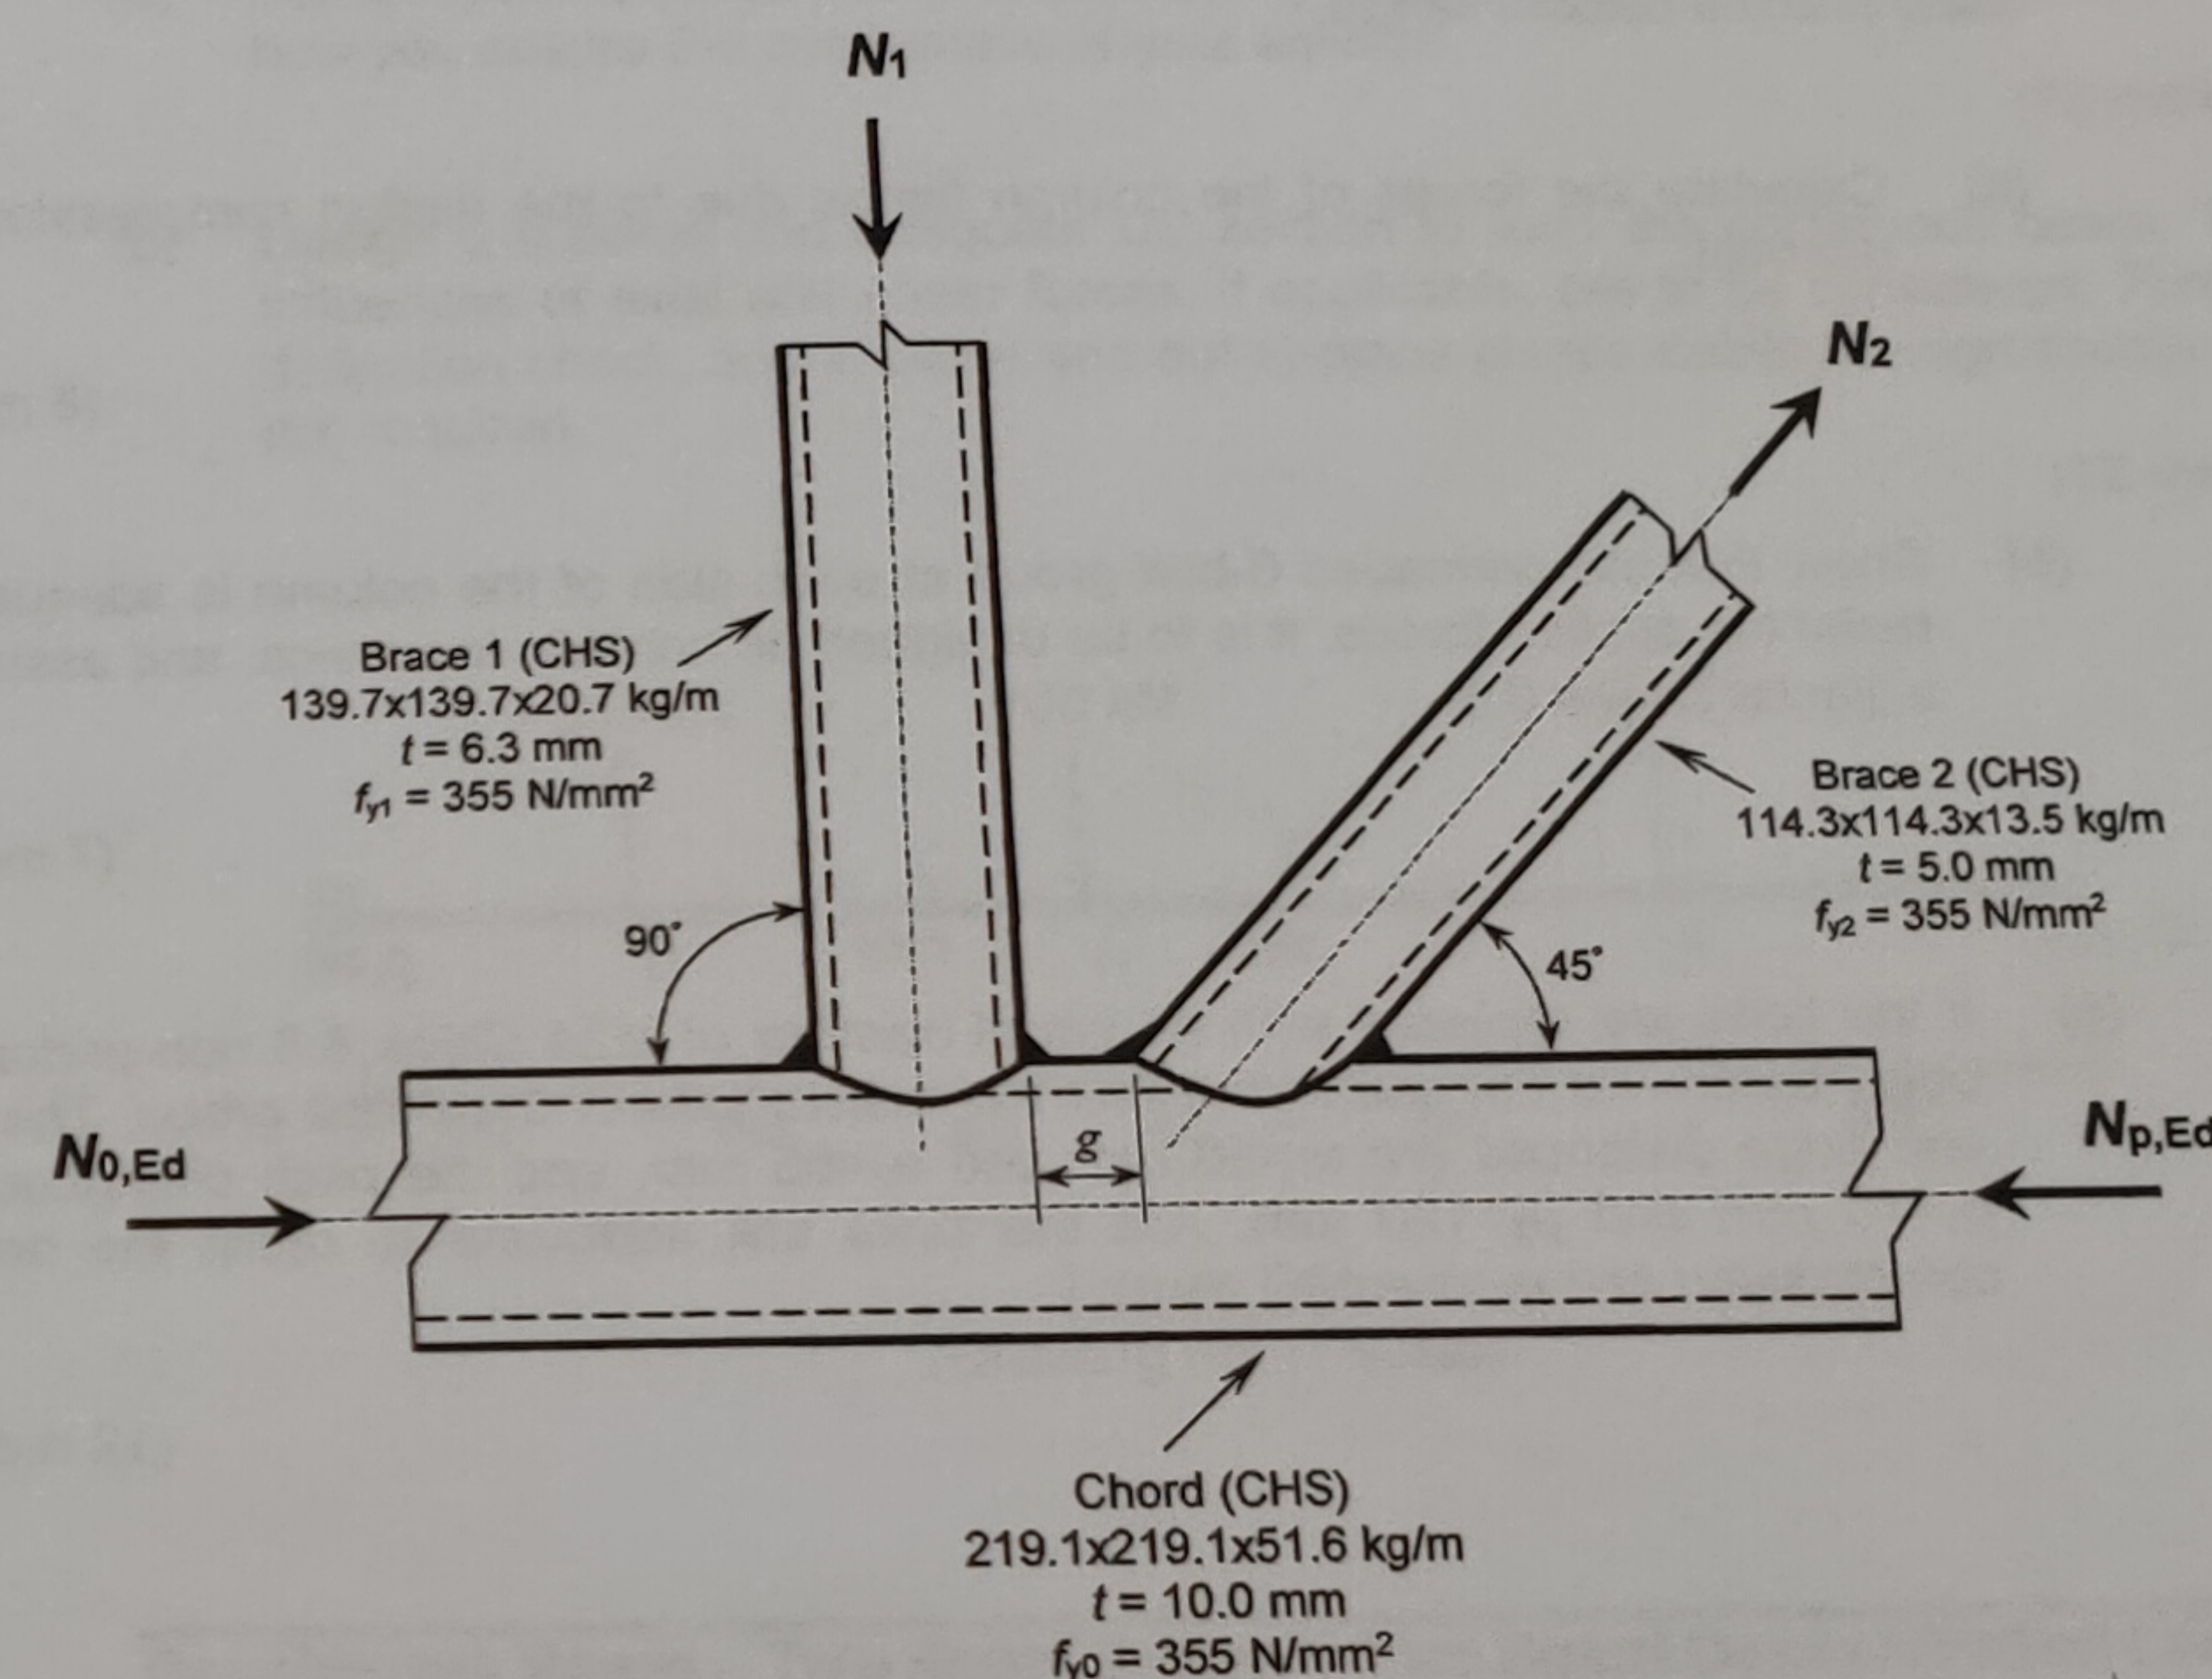

Figure Q1
1. Figure Q1 shows a **non-overlapped N-joint** where the compressive stress in the chord is $\sigma_{p,Ed} = 0.35f_{y0}$. The gap between the two braces is 75 mm and all members are made of **circular hollow sections (CHS)** in accordance to EN 10210, and the steel Grade is S355 as given in Table 3.1 of EN 1993-1-1: 2014. Use design recommendations given in Eurocode 3, EN 1993-1-8: 2010,